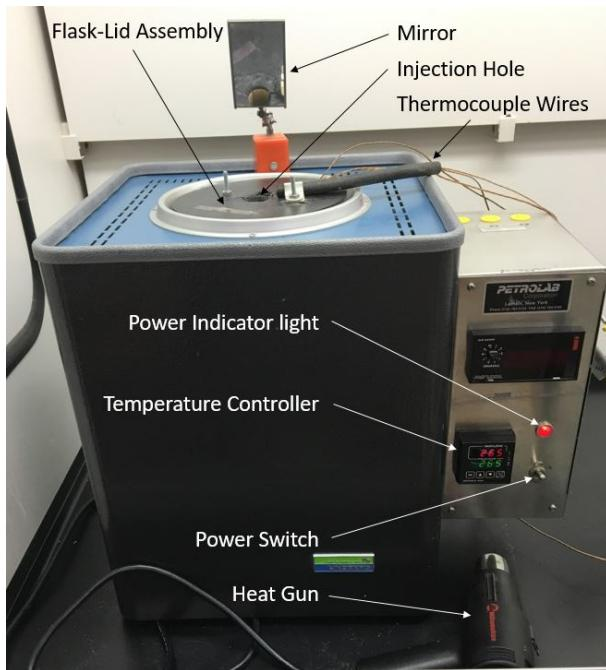

Figure 13: AIT Furnace
- The furnace, shown in Figure 13, is an encased stack of ceramic insulation with cavities cut out to allow space for the heating elements and the test flask (see Figure 20 for an internal diagram of the furnace). The furnace is controlled with measurements taken at the insulated furnace wall. This design causes the furnace to have large temperature gradients while in operation. As a result, the set point temperature and the flask temperature will almost always differ significantly (as much as 25 K in some cases). Therefore, set points must be chosen between approximately 10 - 20 K above the desired temperature to reach that temperature inside the flask. **The reported AIT must be taken from the internal flask temperature (Thermocouple 4) and NOT the control thermocouple inside the furnace**
See Figure 13 for reference on how to operate the furnace